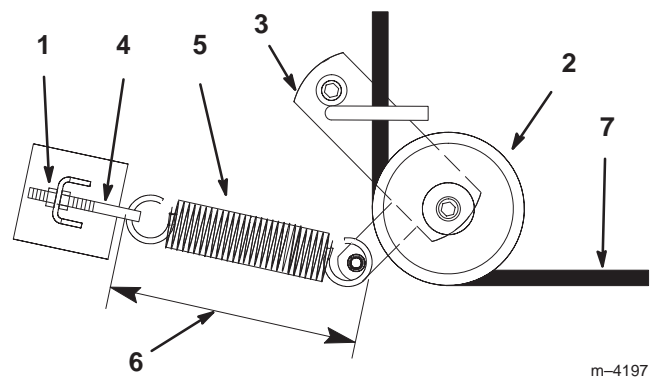

Figure 44
4. Loosen the outer nut on the spring eye bolt (Fig. 44) enough to allow removal of the belt.
6. Route the new belt through the idler arm (Fig. 44) and onto the other pulleys (Fig. 45).
7. Tighten the outer nut on the spring eye bolt (Fig. 44).
Note: Check the spring length. The spring should measure 9-3/8 inch \pm 1/8 inch (238 mm \pm 3 mm) when installed with the height-of-cut set at 1-1/2 inch (38 mm). Adjust it if it does not (Fig. 44).